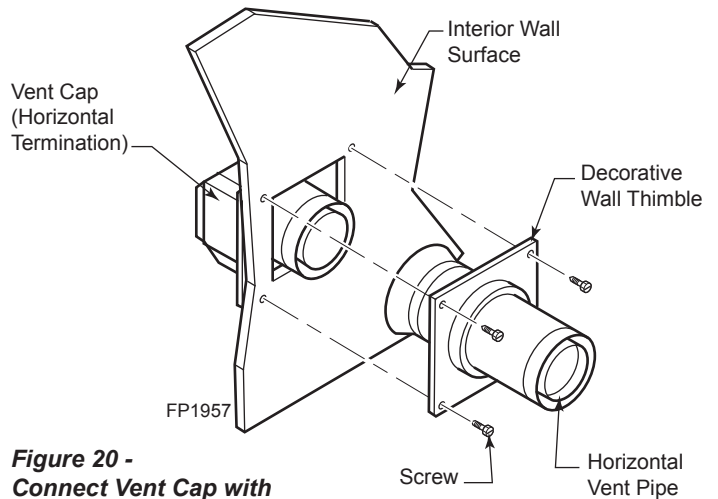

Figure 20 -
5. Slide the wall thimble over the vent pipe before connecting the horizontal run to the vent cap. *Figure 20*
7. Slide the wall thimble against the interior wall surface and attach with screws. *Figure 20*